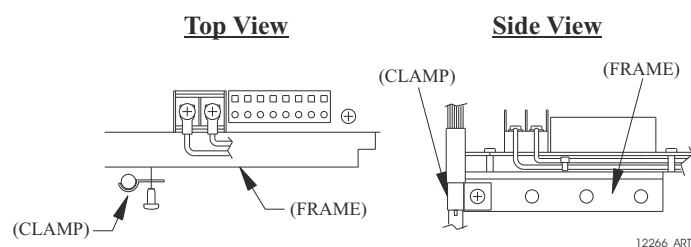

Figure 4-13: Clamp Views
- I Secure the seven-conductor cable to the frame using a conductive Clamp. Ensure that the Clamp and Shield wire come in contact with one another. Refer to Figure 4-13: Clamp Views.
- J Secure the cables internally using a Clamp as shown in Figure 4-13: Clamp Views. Make certain that the drain wire makes contact with the Clamp's metallic surface.
- K Secure the cables internally using a Clamp as shown in Figure 4-13: Clamp Views. Make certain that the drain wire makes contact with the Clamp's metallic surface.